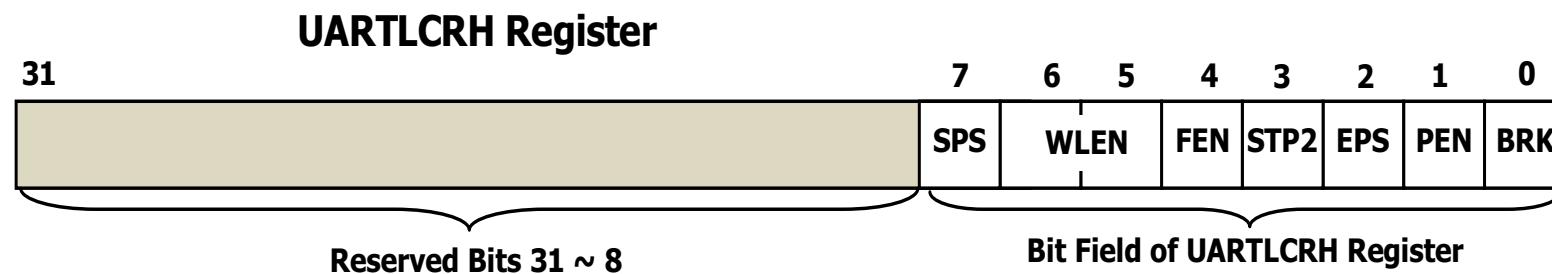

Figure 8.66 Bits configurations for UARTLCRH register.
- The bit configuration for the **UARTLCRH** register is shown in Figure 8.66. The bit field and bit function for this register is shown in Table 8.32 (next slide).